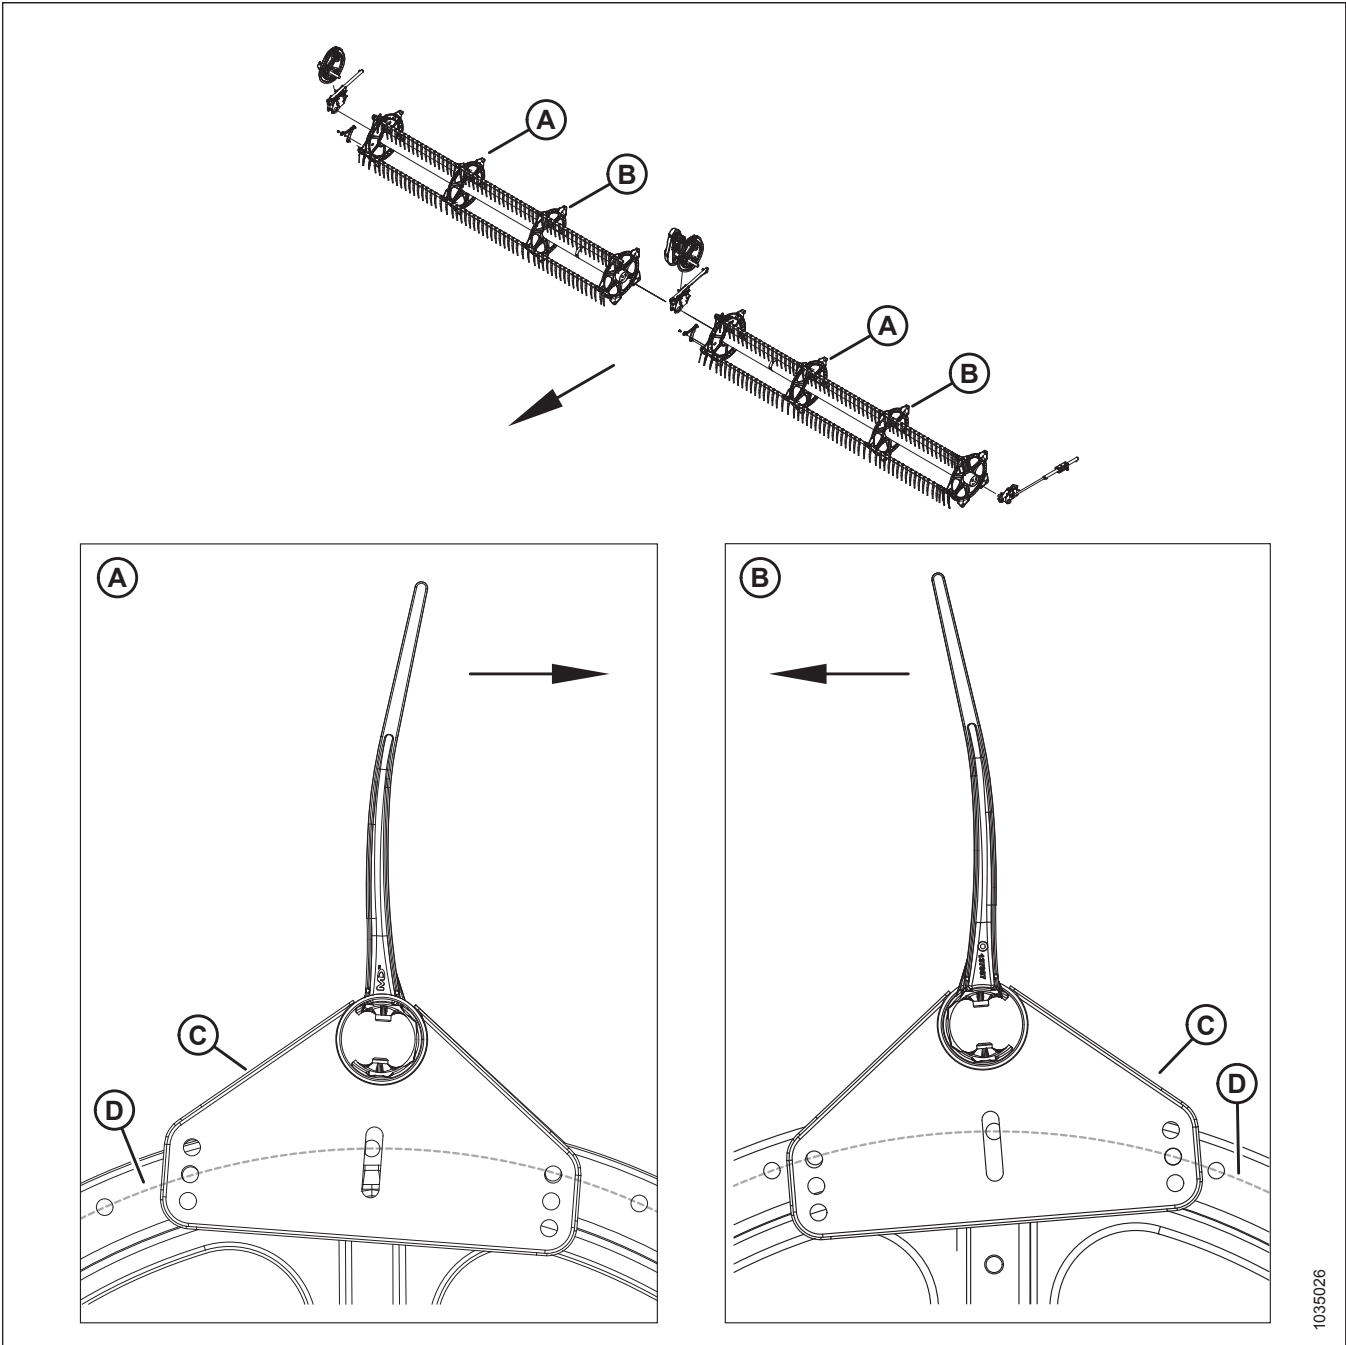

Figure 3.53: Mid-Span Disc Tine Tube Position for FD235 and FD240 Double Reel
- **FD235 and FD240 Double Reel:** Figure 3.53, page 40